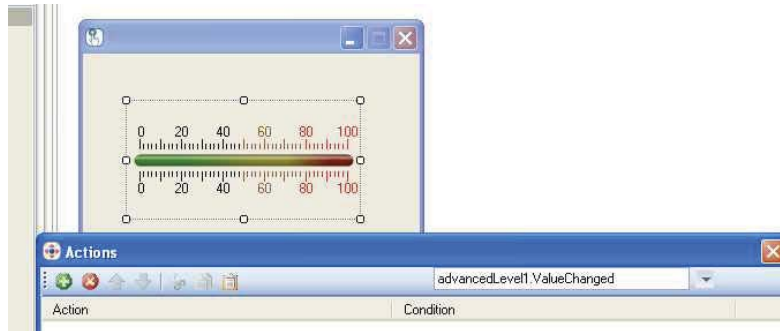

Figure 4-23: Default Event is incorrect
- Setting an indicator: In this situation, the Event and Action is reversed compared to a control. Instead of setting a device parameter value to the UI control value, the need is to set the UI indicator value to a device parameter value. Figure 4-23 shows an advanced level indicator dragged into the form and the default Event is “advancedLevel1.ValueChanged”.